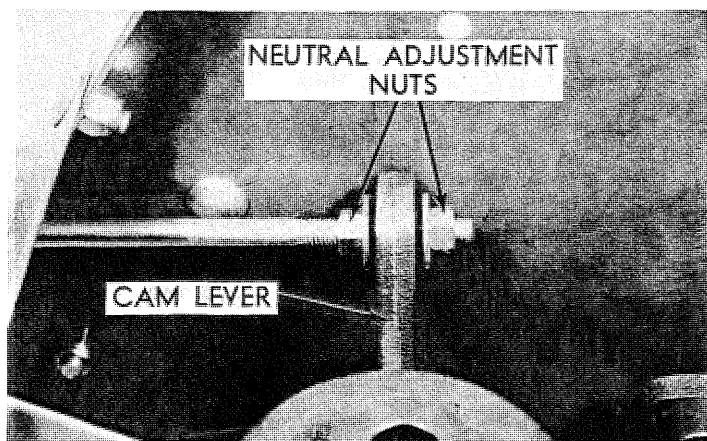

FIGURE 15
- d. Loosen the nuts (Figure 15) on both sides of the cam lever three or four turns. Make sure the "O" rings remain on the ends of the sleeve.